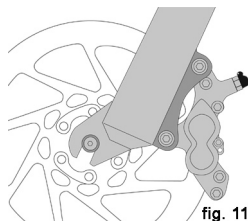
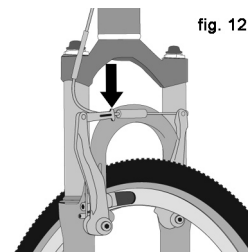

fig. 11
fig. 12
(1) If your bike has rim brakes, disengage the brake's quick-release mechanism to increase the clearance between the tire and the brake pads (See Section 4.C fig. 11 through 15).
(2) If your bike has rim brakes, disengage the brake's quick-release mechanism to increase the clearance between the wheel rim and the brake pads (see Section 4.C, figs. 11 through 15).
(3) On a derailleur gear system, pull the derailleur body back with your right hand.
3. Some bicycle brakes, such as disc brakes (fig. 11) and linear-pull brakes (fig. 12), are extremely powerful. Take extra care in becoming familiar with these brakes and exercise particular care when using them.
Most rim brakes have some form of quick-release mechanism to allow the brake pads to clear the tire when a wheel is removed or reinstalled. When the brake quick release is in the open position, the brakes are inoperative. Ask your dealer to make sure that you understand the way the brake quick release works on your bike (see figs. 12, 13, 14 & 15) and check each time to make sure both brakes work correctly before you get on the bike.